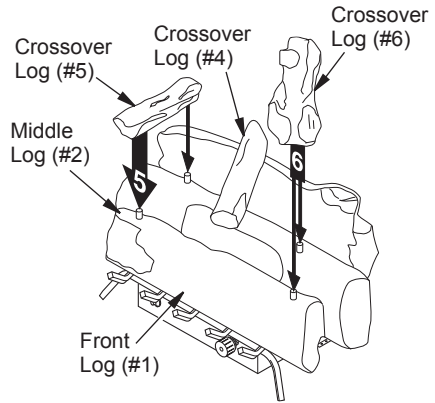
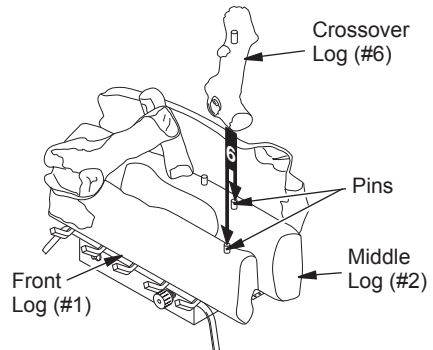

Figure 24 - Installing Crossover Log #5 and Log #6 (CCL3018PA/NA and CCL3018PTA/NTA Only)
Figure 25 - Installing Crossover Log #6 (CCL3930PTB/NTB Shown)
- For **CCL3018PA/NA** and **CCL3018PTA/NTA** Only: Locate holes on the bottom of crossover log (#5). Slide the holes over the left pins on middle log (#2) and front log (#1). See Figure 24.
6. Locate holes on the bottom of crossover log (#6). Slide these holes onto the right pins located in middle log (#2) and front log (#1). See Figure 25 for **CCL3924PTA/NTA** or **CCL3930PTB/NTB**. See Figure 24 for **CCL3018PA/NA** or **CCL3018PTA/NTA**.